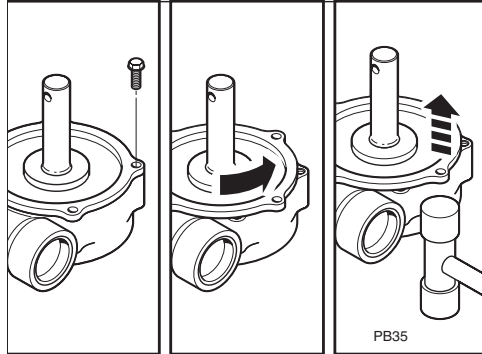

Figure 29
3. Turn gearcase side plate to break the seal and lift the plate from the gearcase. See Figure 29.